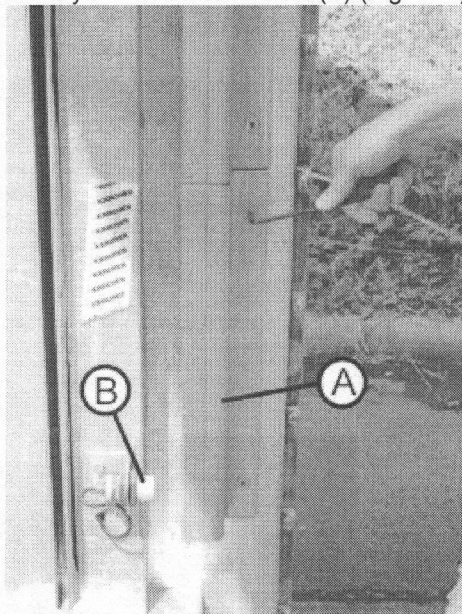

Fig. 074
1. Unscrew the lower guide rails (A) of **one** side of the roof dryer. Never unscrew both rails simultaneously, as the roof driver might tip over. When changing the sliding stones on side 1, unscrew the dryer limit switch below (B) (Fig. 074)
10. Mount limit switch roof dryer below (B) and set to 5 mm distance (Fig. 074).